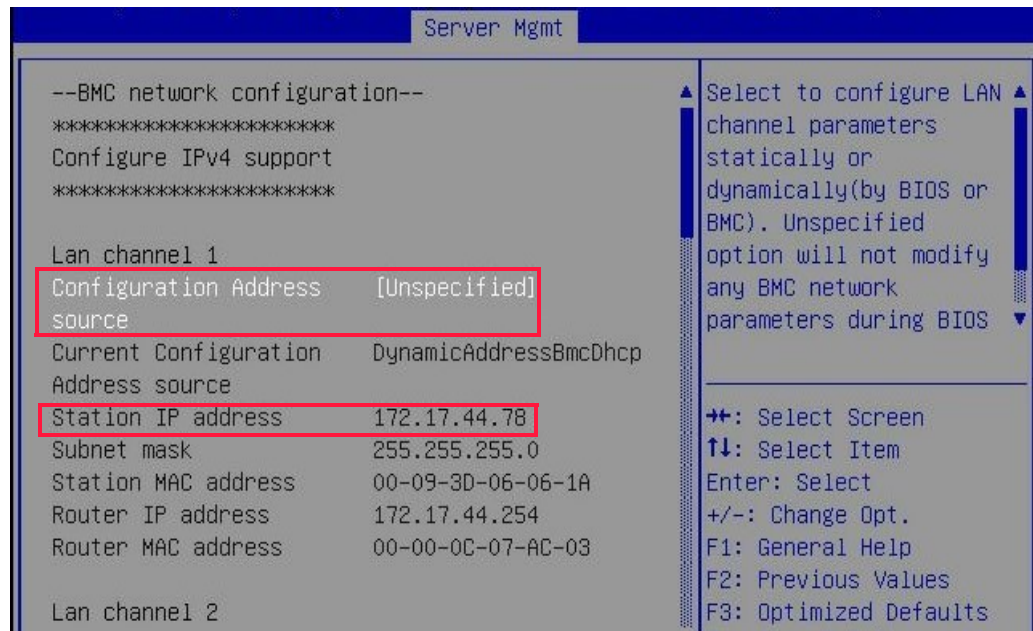

Figure 3.5 BMC network config
9. Press the arrow down key to position the cursor at **BMC network configuration** on the Server Mgmt menu, and then press <Enter>. The **BMC Network Configuration** screen displays as shown in Figure 3.5, and the **Configuration Address source** field displays **Unspecified**.